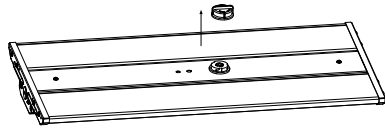

Figure 17
- Step1. Remove the sensor cap from the Zhaga base (Figure 17)